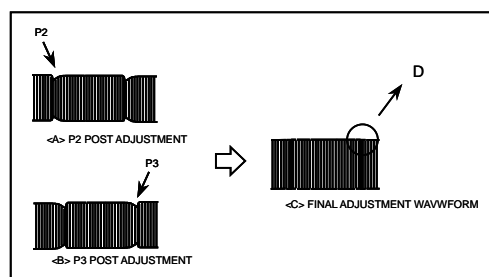

FIGURE 2-> P2/P3 ADJUSTMENT WAVEFORM
1. Adjust p2 & p3 so that the the RF envelope waveform of the oscilloscope becomes C in figure 2.